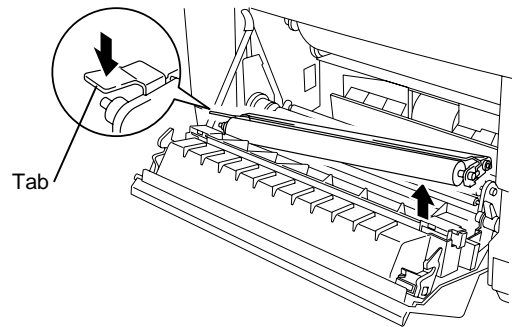

Fig.6-20
- 2) Push the tab of the left hand side to remove the shaft from the installation hole at the right side first, then remove the transfer roller. (Fig.6-20)